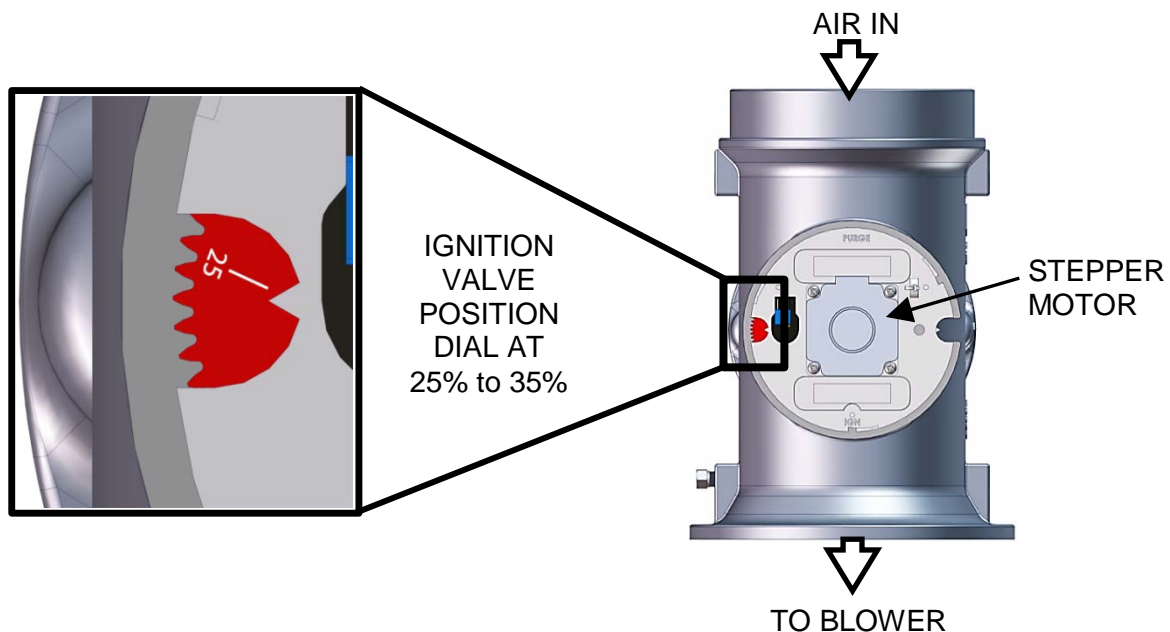

Figure 3-6: Air/Fuel Valve in Ignition Position
- a. The Air/Fuel Valve rotates to the low-fire ignition position and closes the **Ignition** switch. The dial on the Air/Fuel Valve (Figure 3-6) will read between **25** and **35** to indicate that the valve is in the low-fire position.